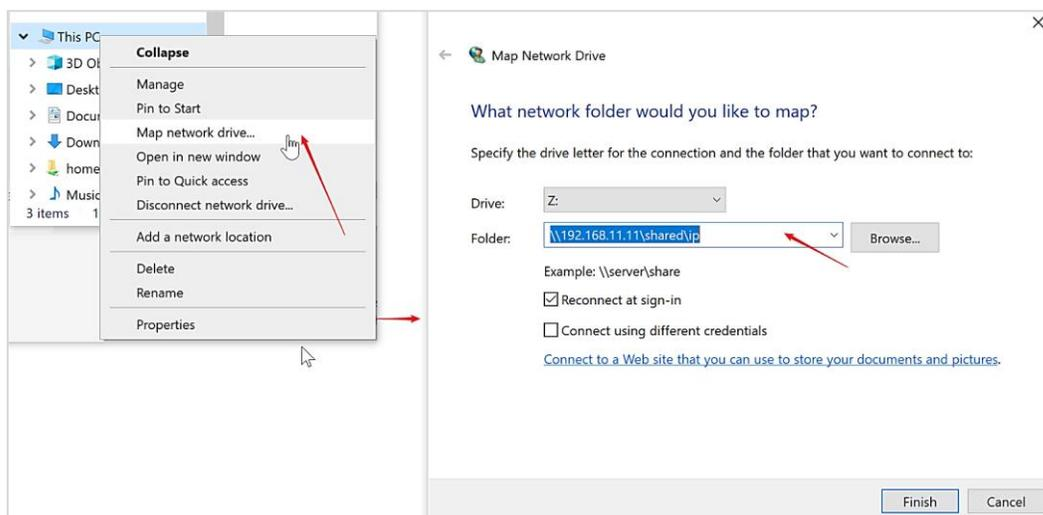

Figure 2.134. Map Network Device
IP Public Path does not support network path in Windows Operation System (OS), for example, \\192.168.11.11\shared\ip. Workaround for this is to map the Network Drive with the network path and set the path with a local disk (Figure 2.134).